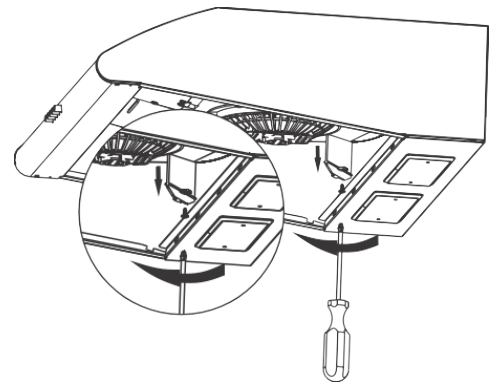

Fig. 6
2. Using a Philips screwdriver remove the long air deflector on the motor case (Fig. 6).